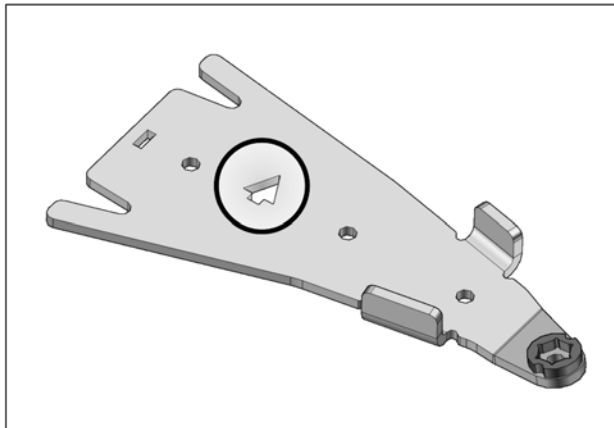

Fig. 1
1. For installation purposes, directional arrows have been cut out of the main components in the anchor bracket kits. These arrows indicate the front of the vehicle relative to the component. See Fig. 1